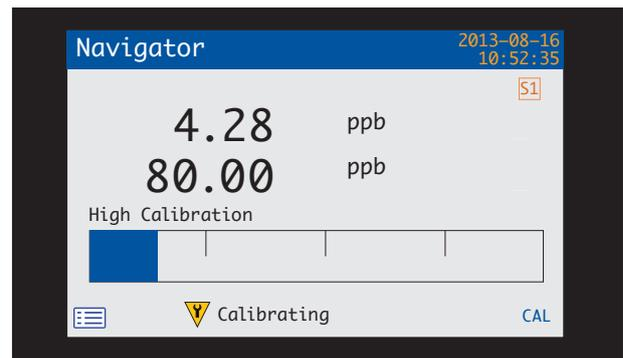

Fig. 5.1 Calibration View
- 5 To exit the *Calibration* page, press the  key (below the OK prompt). Calibration continues and calibration progress can be monitored from the *Calibration View* – see Fig. 5.1.
If the *Calibration* page is exited by press the  key (below the OK prompt) before the calibration has completed, progress can be monitored from the *Calibration View* mode – see Fig. 5.1.